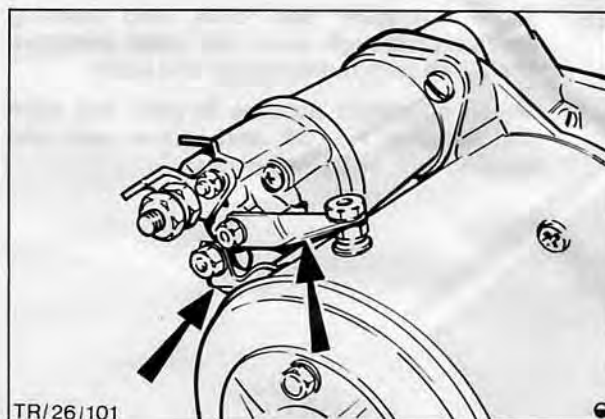

Fig. 57. Solenoid terminal to yoke terminal copper link
1. Remove copper link which connects solenoid terminal S2 to yoke terminal, Fig. 57.